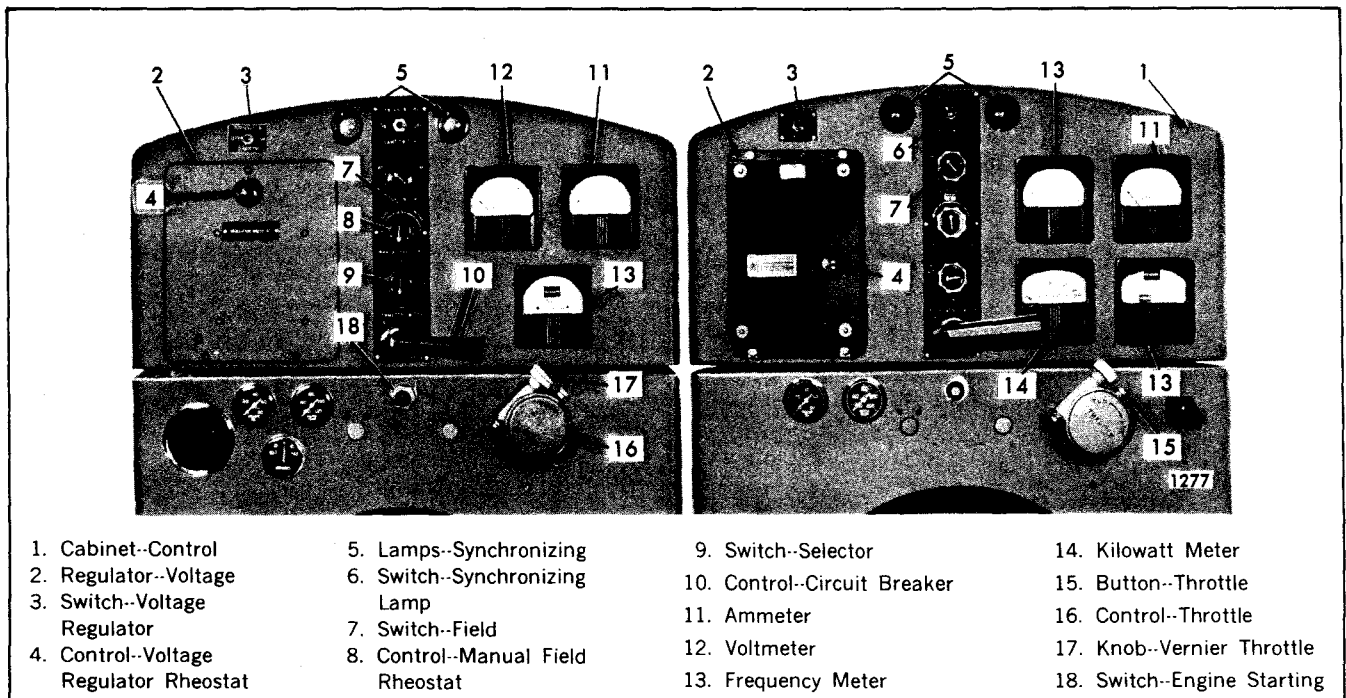

Fig. 1 - Typical Alternating Current Generator Control Cabinets
4. Refer to Fig. 1 and place the circuit breaker (10) in the *OFF* position.
5. Place the field switch (7) in the *OFF* position.
6. Place the synchronizing lamp switch (6) in the *OFF* position.
7. Place the voltage regulator switch (3) in the *OFF* or *MANUAL* position.
8. Turn the field rheostat knob (8) clockwise to its lower limits.
Press the throttle button (15) and turn the throttle control (16), Fig. 1, counterclockwise to a position midway between *RUN* and *STOP*. Then press the starter button (18) firmly.
1. Bring the engine up to rated speed. Then place the field switch (7), Fig. 1, in the *ON* position.
2. Turn the voltage regulator switch (3) *ON*.
3. Turn the instrument selector switch (9) to the desired position.
4. Turn the field rheostat (8) slowly in a counterclockwise direction to raise the voltage, while watching the voltmeter, until the rheostat reaches the end of its travel. The voltage regulator will take control of the generator voltage as the field rheostat reaches the end of its travel.
2. Check the voltmeter (12), Fig. 1; the voltage must be the same as the line voltage. Adjust the voltage
1. Turn off all of the load on the generator when stopping a single engine unit. Shift the load from the generator when taking a set out of parallel operation by turning the vernier throttle knob (17), Fig. 1, until the ammeter (11) reads approximately zero.
2. Place the circuit breaker control (10) in the *OFF* position.
3. Turn the field rheostat (8) to the fully clockwise position.
4. Turn the voltage regulator switch (3) to the *OFF* position.
6. Press the throttle button (15) and turn the throttle control (177) to *STOP* to shut down the engine.